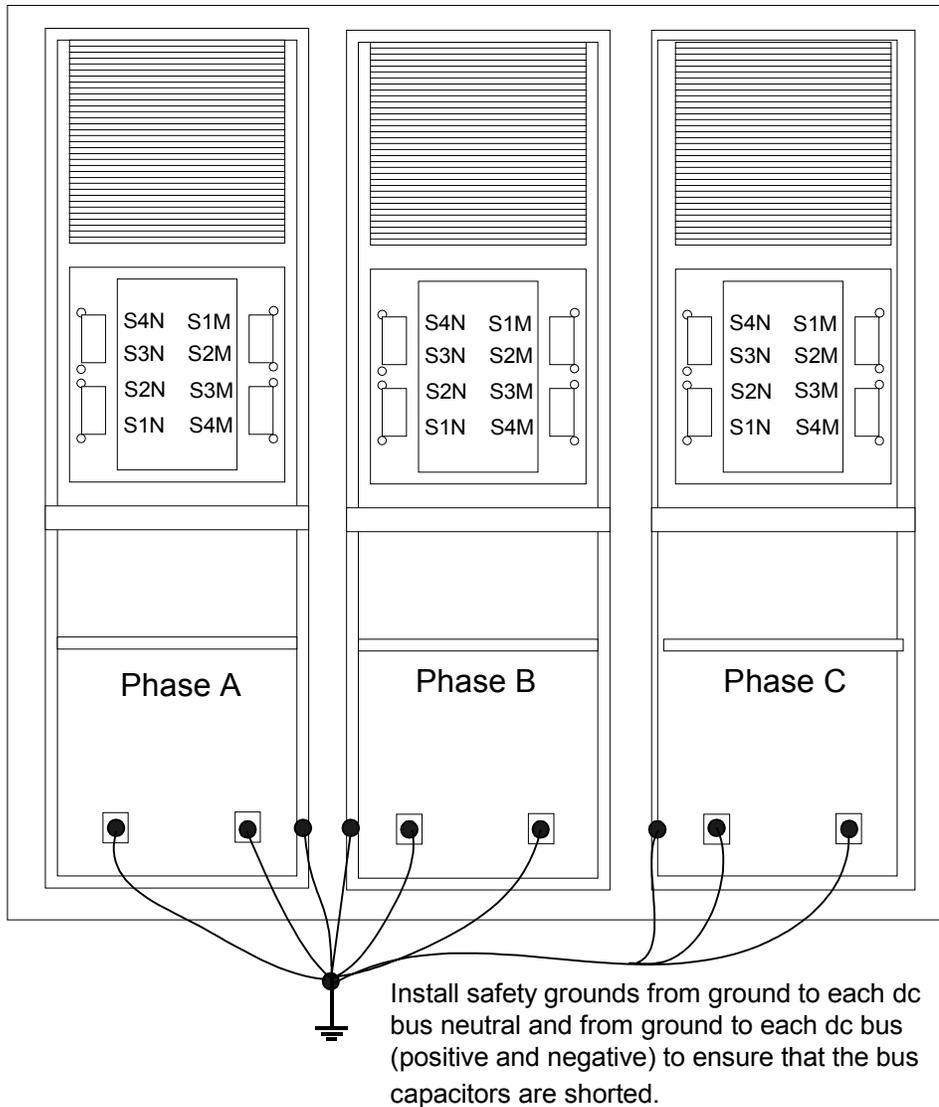

Figure 5. Dc Bus Safety Grounding
3. Install safety grounds (see Figure 5) and, using equipment designed for high voltages, test any electrical circuits **before touching them** to ensure that power is OFF and has dissipated.